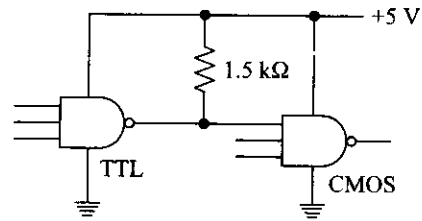

Fig. 14.57
14.42 If the CMOS input is low in Fig. 14.57, what is the sink current in the TTL driver? If the CMOS input is high, how much voltage drop is there across the 1.5 kΩ if the gate current is 1 μA (worst case)?
- 14.49 In Fig. 14.57, a logic probe indicates that the lower end of the pull-up resistor is stuck in the low state. Using a logic pulser and current tracer, you detect a current in the wire between this resistor and the TTL output. Which of the following is a possible trouble?
- 14.50 The lower end of the pull-up resistor (Fig. 14.57) is stuck in the high state. With a logic pulser and current tracer, you detect a current in the wire between this resistor and the CMOS input. Which of the following is a possible source of the trouble?